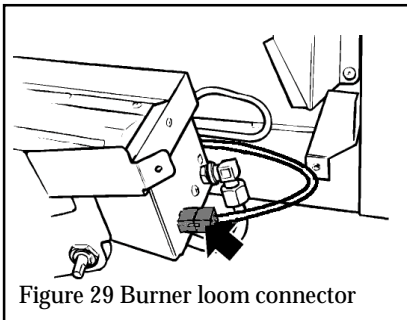

Figure 29 Burner loom connector
14.4.2 Detach the burner wiring loom connection at the right side of the burner (see figure 29).